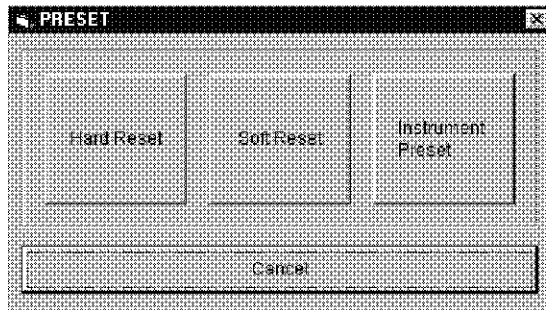

Figure 2-9 PRESET Menu
- The PRESET operation can be performed by using the **PRESET** button in the entry key block on the R4870 front panel. If the right mouse button is pressed and held down and, then the left button is pressed, the PRESET icon, which is shown in Figure 2-9, is displayed.